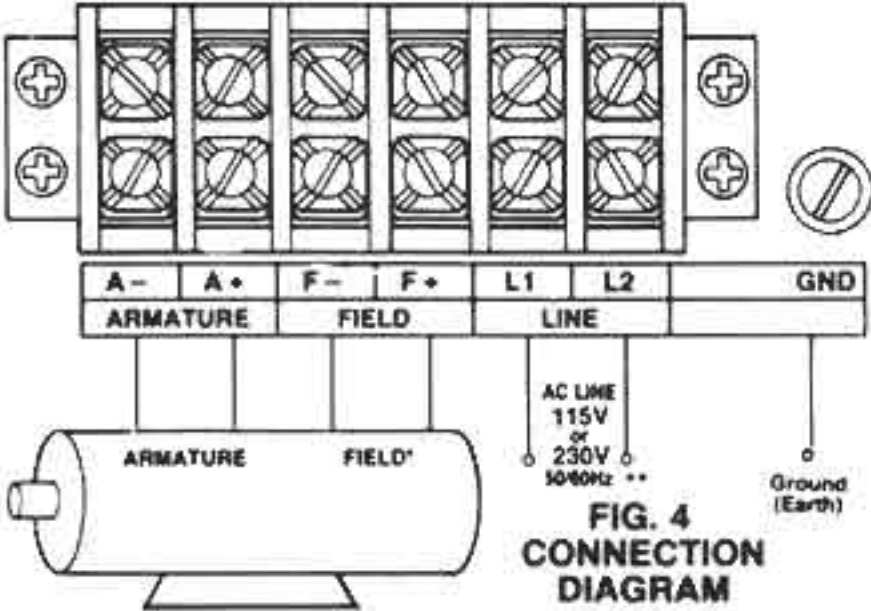

FIG. 4
- (1) Slide open front cover by removing two 6-32 screws.
- (2) Install Plug-In Horsepower Resistor[®] corresponding to motor voltage and horsepower. (See chart Table 3, page 3)
- (3) Set the Dual Voltage Switch to proper position "115" or "230" which corresponds to the nominal AC input line voltage 120 or 240 VAC.
- (4) Install proper Armature fuse according to Fuse Selection Chart. (Table 6, page 8)
- (5) Trimpots have been factory adjusted. If readjustment is required see section IV pages 9 & 10.
- (6) Install Auxiliary Heatsink if motor is larger than 3/4 HP on 120 VAC and 1-1/2 HP on 240 VAC. (Use (6) No. 10-32 screws)
C. Wiring. (See Fig. 4 for terminal arrangement and wiring information.)
- (1) Connect the Multi-Drive[®] to a standard 120 V or 240 V 50/60 Hz power source. [Be sure the DVS is set to the proper voltage "115" or "230" and motor voltage corresponds to the line voltage. (e.g. 90-130 VDC motor on 115-120 VAC and 180 VDC motor 230-240 VAC)]
- (2) Follow the recommended supply wire sizes as per Table 5. (For Stepdown operation see note on page 8.)
- (3) Follow the NEC and other appropriate electrical codes. **CAUTION:** Separate branch protection must be provided on 240 V circuits.
- (4) Replace front cover and the two 6-32 screws.